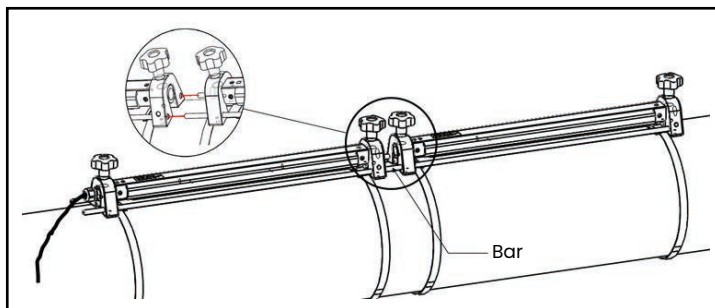

Figure 15: Two Traverse Installation with Two Clamp-on Fixtures
2. Hold one of the clamp-on fixtures, with two transducers and one cable, against the pipe between the upstream pair of straps and move the two mounting straps onto the fixture (see *Figure 15* below). Then, tighten the screws on the mounting straps, and verify that the straps remain in place on the fixture.